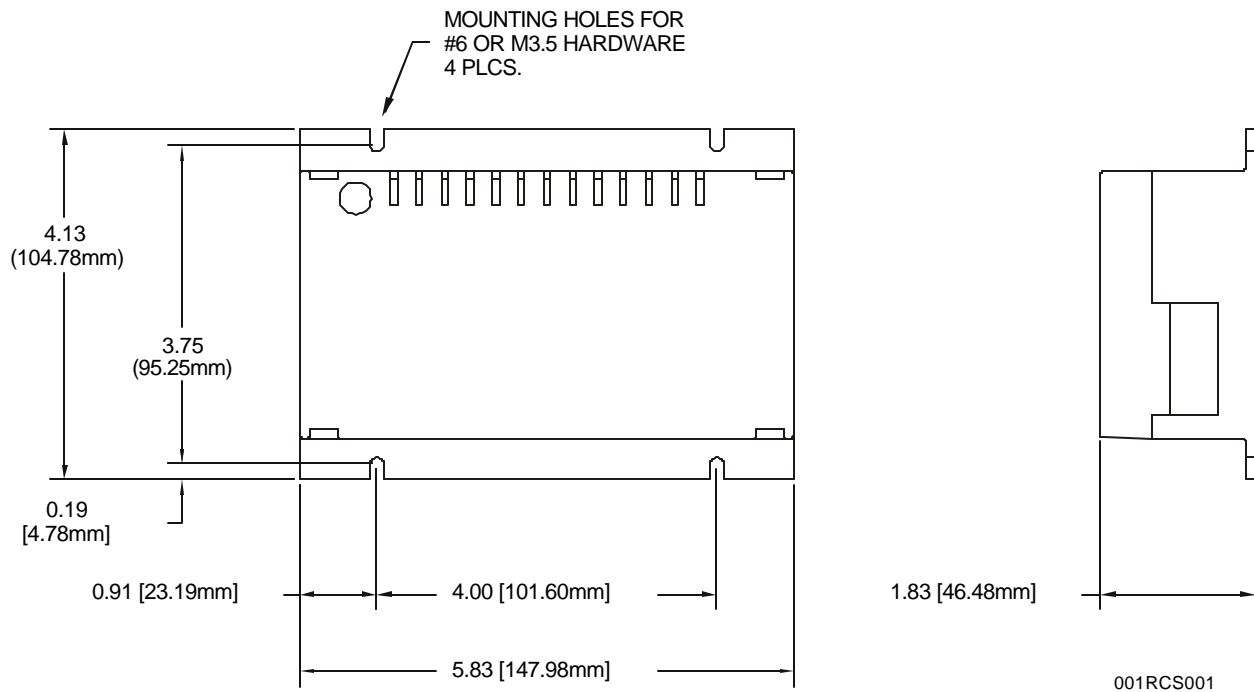

Figure 2.9 – MiniRCS Dimensions / Mounting Holes and MiniRCS Side View
2. Drill holes as described in the Figure 2.9.